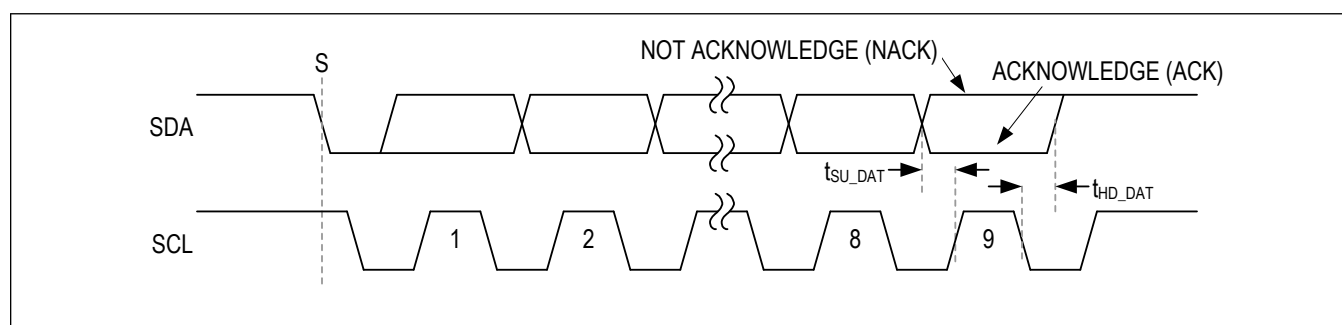

Figure 32. Acknowledge Bit
Both the I²C bus master and slave devices generate acknowledge bits when receiving data. The acknowledge bit is the last bit of each nine bit data packet. To generate an acknowledge (A), the receiving device must pull SDA low before the rising edge of the acknowledge-related clock pulse (ninth pulse) and keep it low during the high period of the clock pulse. See Figure 32. To generate a not-acknowledge (nA), the receiving device allows SDA to be pulled high before the rising edge of the acknowledge-related clock pulse and leaves it high during the high period of the clock pulse.